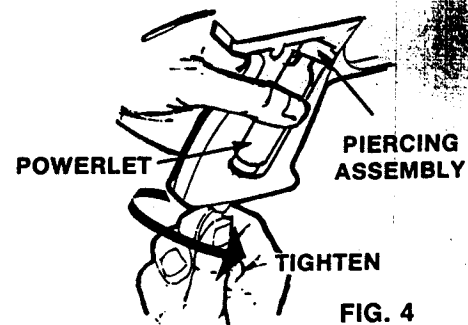

FIG. 4
- Insert new Powerlet, small neck towards Piercing Assembly. See Fig. 4.
the slot of the Piercing Screw, turn in a clockwise direction until Powerlet is secure. (Fig. 4) This action pierces the Powerlet.